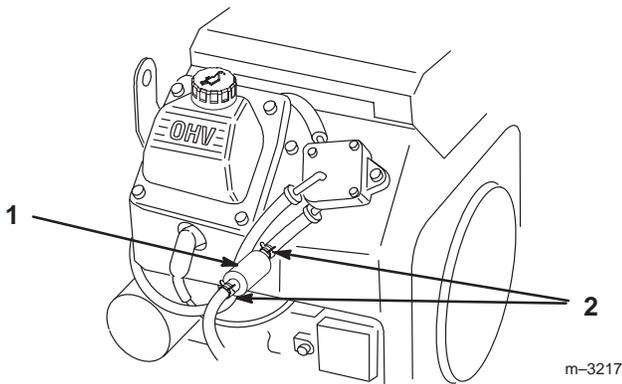

Figure 29
3. Squeeze the ends of the hose clamps together and slide them away from the filter (Fig. 29).